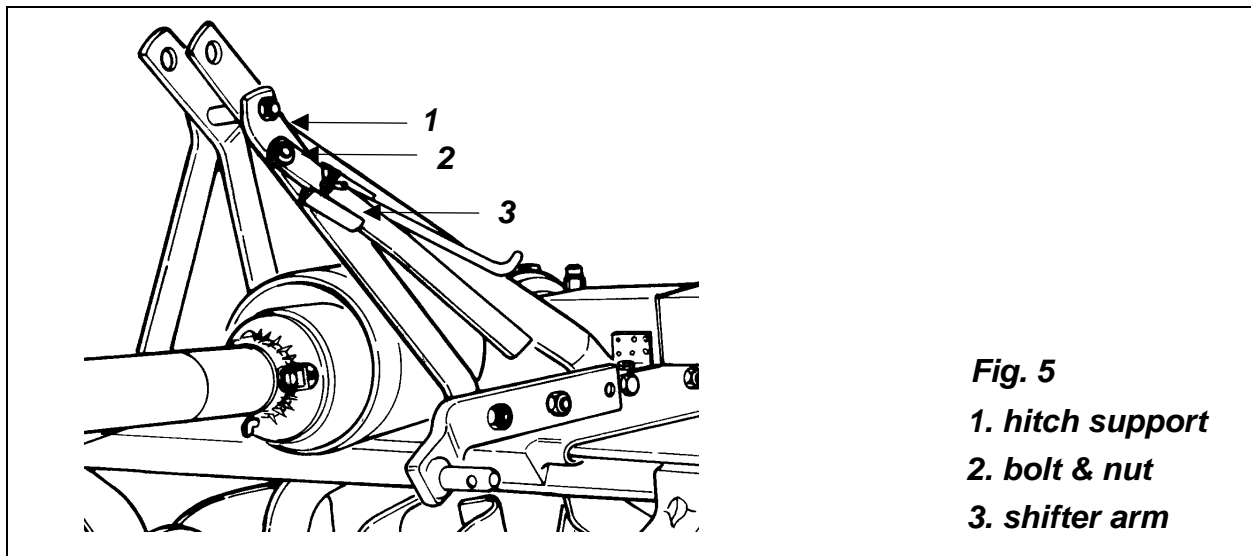

Fig. 5
5. Bolt the shifter arm (see #3, fig. 5) to the top hitch support (see #1, fig. 5) with the bolt and wing nut (see #2, fig. 5) provided.